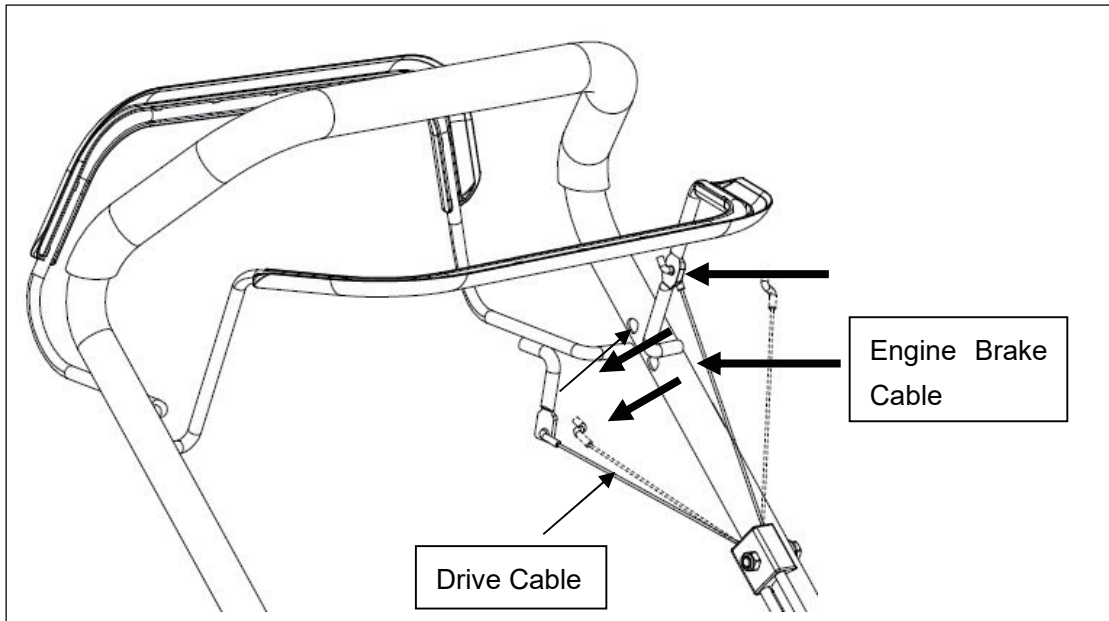

Fig.3
2. The arrow indicates where the cable should loop through. (See Fig. 3)